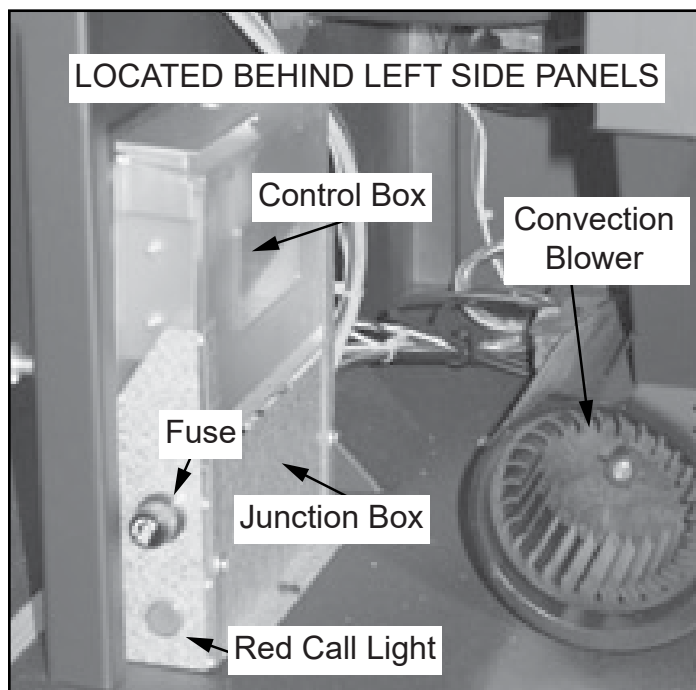

Figure 11.3
5. Look through the hole in the left lower side panel and you will see the red call light on the control box will be on (**Figure 11.3**). This indicates the thermostat is calling for heat. On the
3. Occasionally the appliance may run out of fuel and shut itself down. When this happens, the red call light will be on (See Figure 11.3 on page 11).